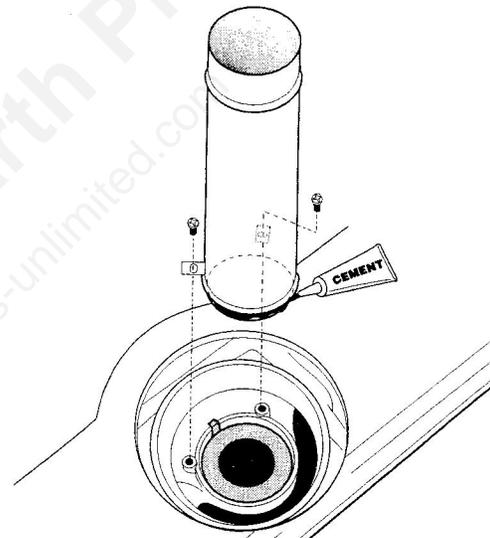

Figure 25. Install the Inner Adapter Pipe.
3. **Install the Inner Adapter Pipe.** *For both CFM and Simpson Dura-Vent pipe:* Apply a bead of cement around the lower end of the pipe and secure it to the inner flue collar using the two 1/4-20 x 3/8" phillips screws provided in the hardware bag. Fig. 25.